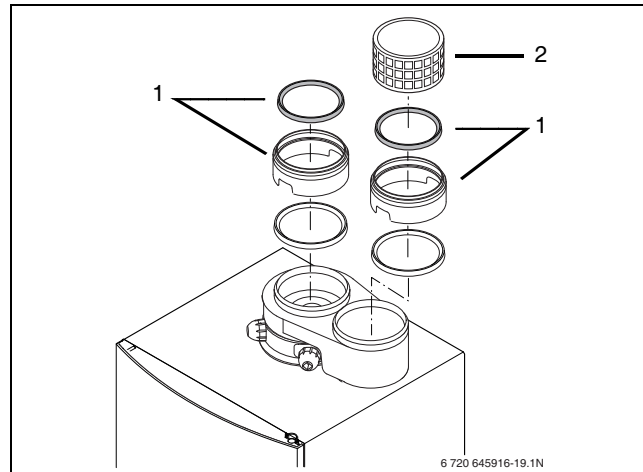

Fig. 21 Connecting the flue gas adapter (parallel)
- ▶ When installing concentric PP venting material remove upper lip ring and insert (→ fig. 21, [1]) and place air intake cap [1].